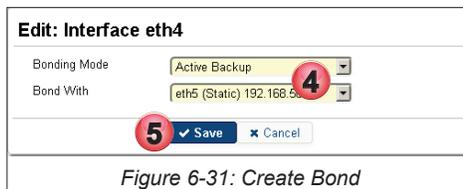

Figure 6-31: Create Bond
4. Select **Active Backup** as the Bonding Method and the **Secondary NIC** to bond with from the choices available in the drop down menus, Figure 6-31. See “Table 6.3a: Bonding Modes & Description” on page 6-11 for guidance on the 802.3ad bonding method.